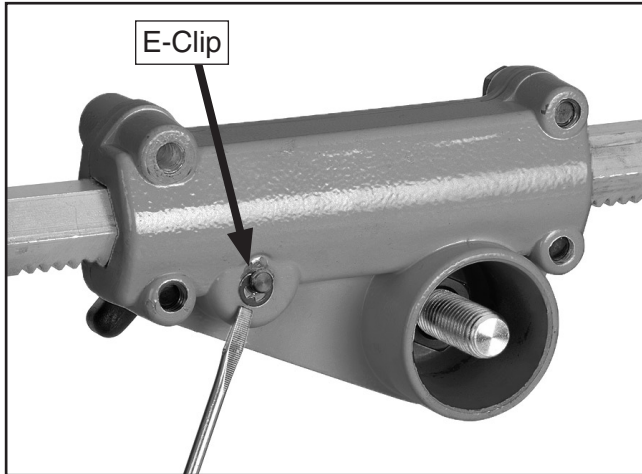

Figure 11. Horizontal crank handle E-clip.
12. Place the E-clip on the end of the horizontal crank to retain the crank as shown in **Figure 11**.